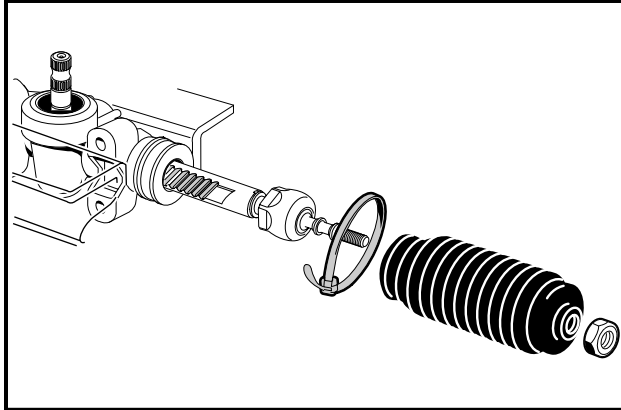

Figure 7-11 Dust Bellows Clamp
3. Remove both bellows clamps (metal clamps or plastic wire ties) (**Figure 7-11, Page 7-10**).